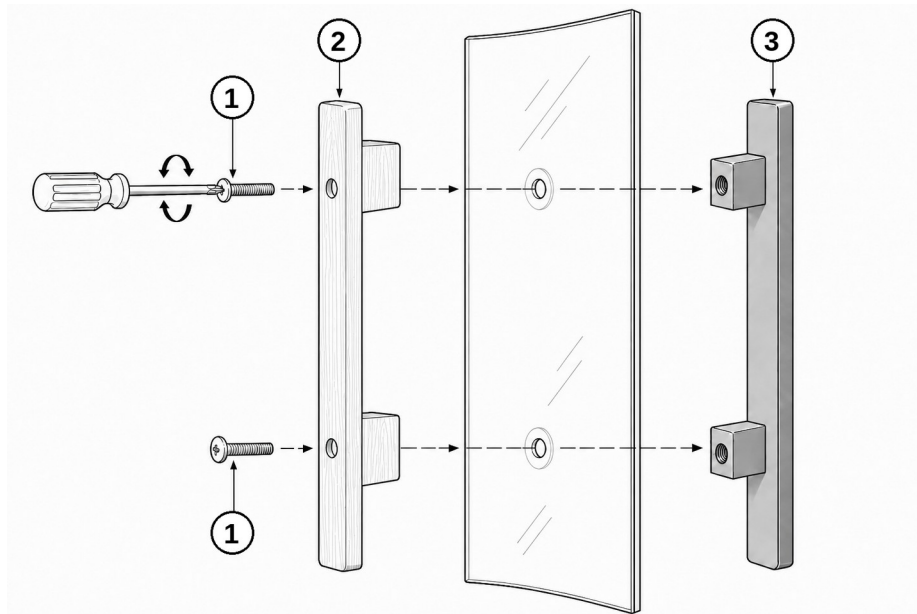

Figure 29. Door handle assembly: bolts (1) pass through the interior wooden handle (2) and the glass into the exterior stainless steel handle (3).
Parts (Figure 29): (1) two 6 × 60 mm bolts, (2) the interior wooden handle, (3) the exterior stainless steel handle, and the wooden plugs.